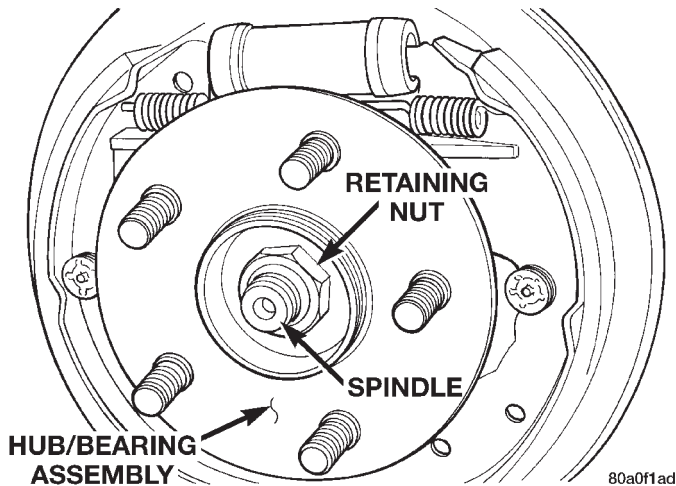
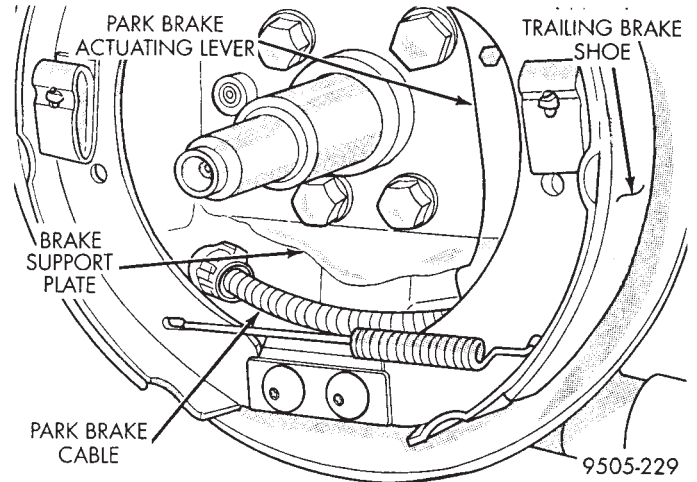
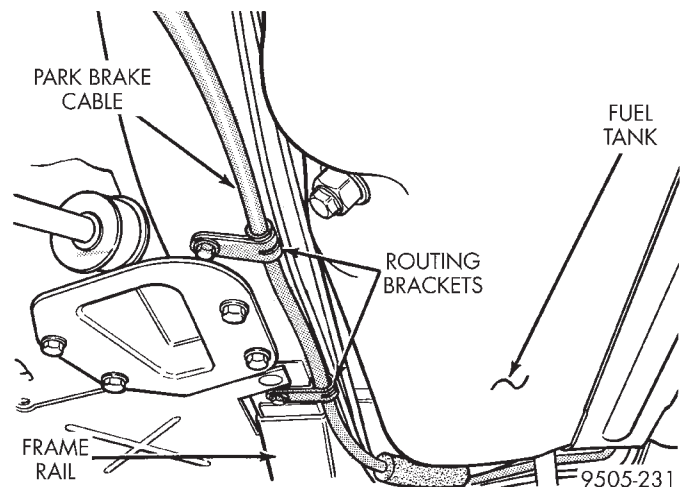

Fig. 142 Hub/Bearing Retaining Nut
Fig. 143 Rear Park Brake Cable At Actuating Lever
Fig. 145 Park Brake Cable Routing Brackets
(23) Remove the rear hub/bearing retaining nut (Fig. 142).
(24) Remove the hub/bearing from the spindle.
(25) Remove the park brake cable from the park brake actuating lever on the trailing brake shoe (Fig. 143).
(27) Raise vehicle.
(28) Remove the 2 routing brackets (Fig. 145) attaching the park brake cable to the vehicle frame rail.
(2) Install the 2 park brake cable routing brackets (Fig. 145) on the frame rail. Install and securely tighten the routing bracket attaching bolts.
(3) Install the park brake cable into the rear brake support plate **but do not** lock the locking tabs on the cable attachment retainer into the brake support plate.
(4) Install the park brake cable on the park brake actuating lever of the trailing brake shoe (Fig. 143). **Be sure the end of the spring is under the lip on the park brake actuating lever.**
(5) Push the park brake cable fully into the rear brake support plate. Be sure locking tabs on cable retainer are expanded to ensure park brake cable is securely held in the support plate.
(6) Install hub/bearing assembly on rear spindle. Then install **a new** rear hub/bearing assembly retaining nut (Fig. 142). Torque hub/bearing assembly to spindle retaining nut to 250 N·m (185 ft. lbs.).